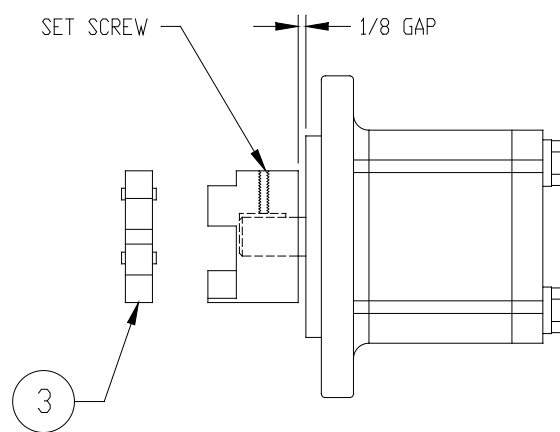

Figure 2
3. Insert the coupling insert onto the pump coupling as shown in Figure 2.